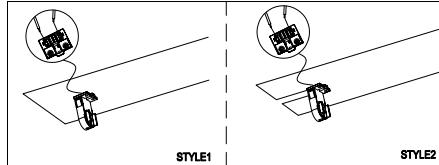

Figure 5
**STEP 5:** Wire the lamp holder, refer to the Wiring Diagram and Figure 5.